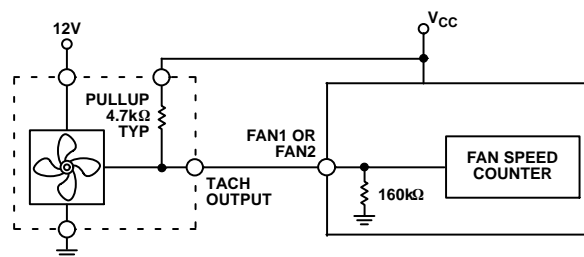

Figure 25. Fan with Tach Pullup to $+V_{CC}$
1. All of these circuits will provide an output range from 0 V to almost 12 V, apart from Figure 25 which loses the base-emitter voltage drop of Q1 due to the emitter-follower configuration.
Figure 25 to Figure 28 show circuits for most common fan tachometer outputs.
If the fan tachometer output has a resistive pullup to V_{CC} , it can be directly connected to the fan input, as shown in Figure 25.